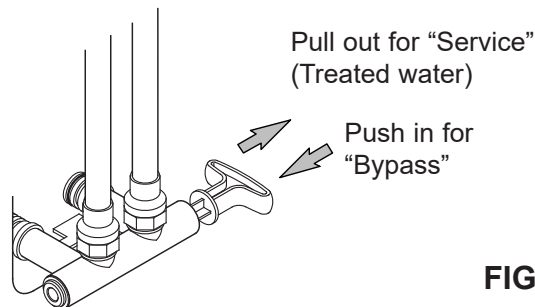

FIG. 7
Always install either a single bypass valve (provided), as shown in Figure 7, or, if desired, parts for a 3 valve bypass system (not included) can be purchased and assembled, as shown in Figure 8. Bypass valves allow you to turn off water to the softener for maintenance if needed, but still have water in house pipes.
3. Place bypass valve(s) in "bypass" position (see Figures 7 & 8). On a single valve, slide the stem inward to bypass. On a 3-valve bypass, close the inlet and outlet valves and open the bypass valve.